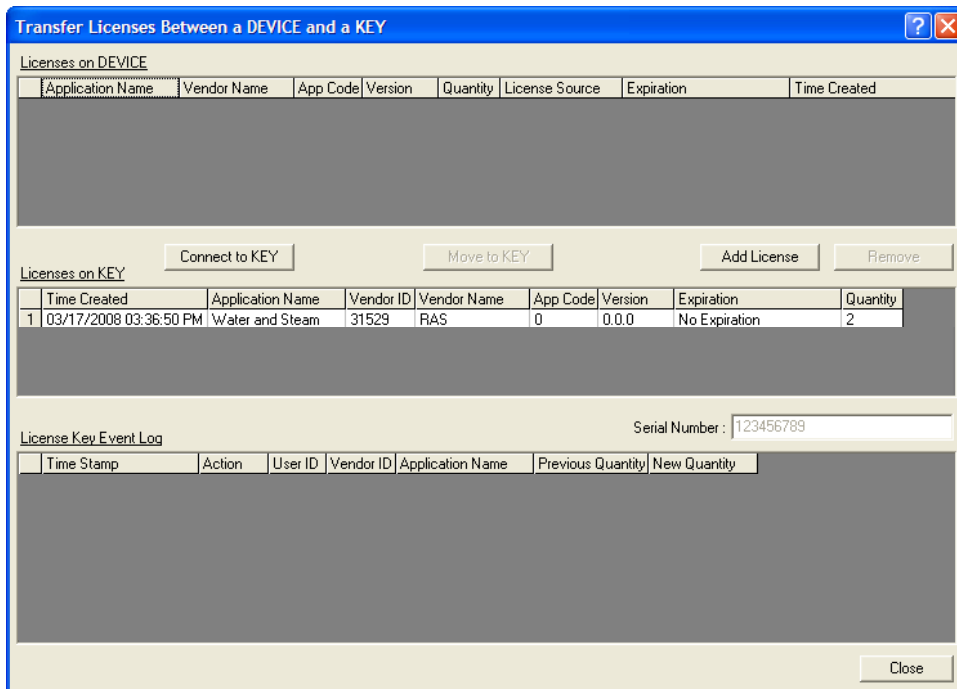

Figure 2. Transfer Licenses Between a Device and a Key
3. Select the key-based license you want to transfer to the FB107 (Water and Steam, as shown in *Figure 2*).